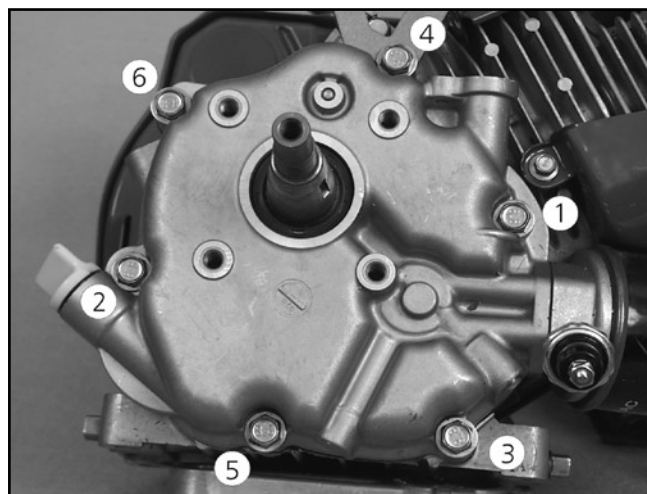

Figure 9-16. Crankcase Cover Bolt Tightening Sequence
13. Install the crankcase cover bolts and torque (see Figure 9-16). Refer to Section 14 for torque specifications.